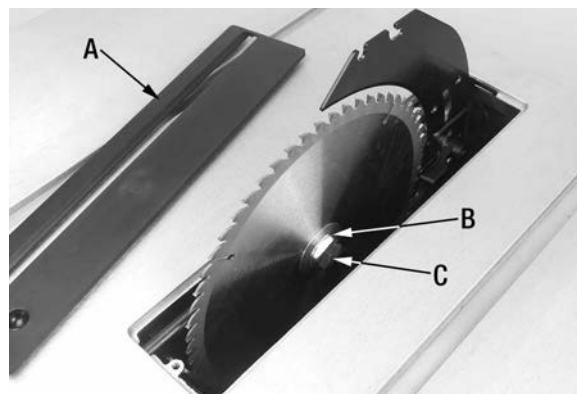
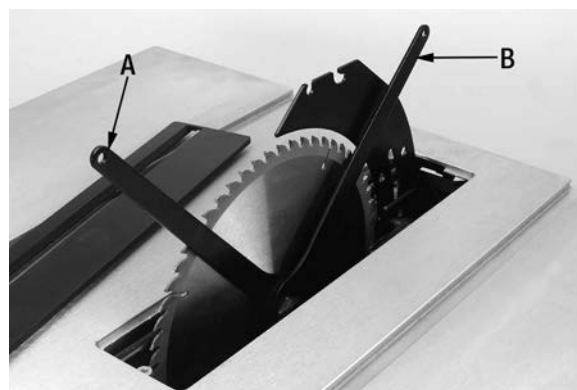

FIGURE 15
FIGURE 16
1. Uninstall the blade guard from the riving knife. Then remove the table insert (A) Fig.15 to gain access to the blade arbor.
3. Place the supplied open end wrench (A) Fig.16 on the flat portion of the outside blade flange (B) Fig.15 to prevent the saw arbor from rotating. Then place the second supplied open end wrench (B) Fig.16 on arbor nut (C) Fig.15 and turn the arbor nut counterclockwise, remove arbor nut and outside blade flange.